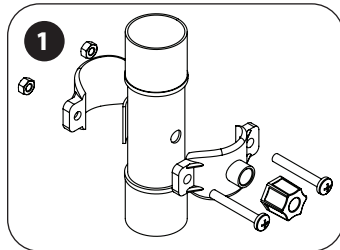

**Figure 2.**
1. Drill a 1/2" (12mm) hole at a proper location on the mounting surface, and install the faucet as shown in **figure 2**.